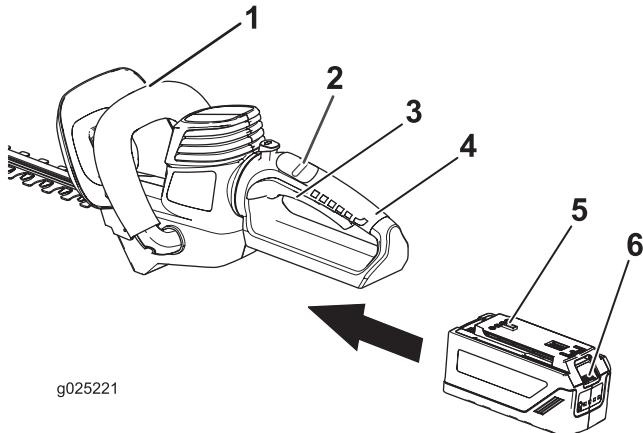

Figure 3
2. Align the tongue of the battery pack with the cavity in the handle housing (Figure 3).
3. Grasp the trigger handle (Figure 3).
5. Place one hand on the trigger handle. Place the other hand on the auxiliary handle (Figure 3).
6. Slide the lock switch backward, toward you, then squeeze the trigger switch to turn on the hedge trimmer (Figure 3).
1. Release the trigger switch (Figure 3).